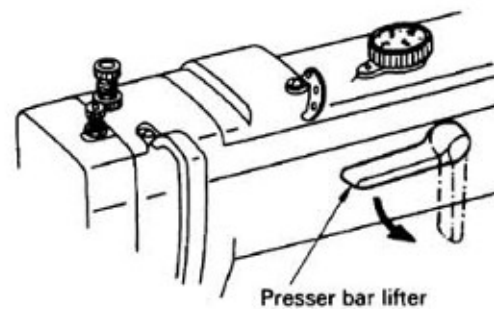

Fig.22
21. Presser bar lifter (Fig.22):